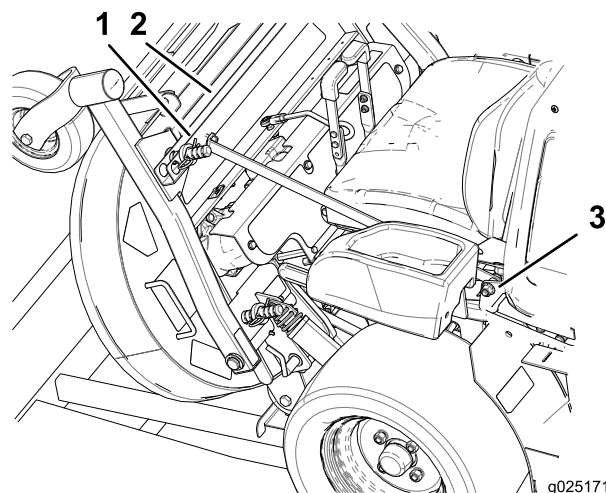

Figure 5
12. While supporting the mower deck, remove and discard the two side struts, mounting brackets, and their hardware on both sides of the seat (Figure 5).
13. Remove and discard the strut located between the front deck support pins (Figure 5).